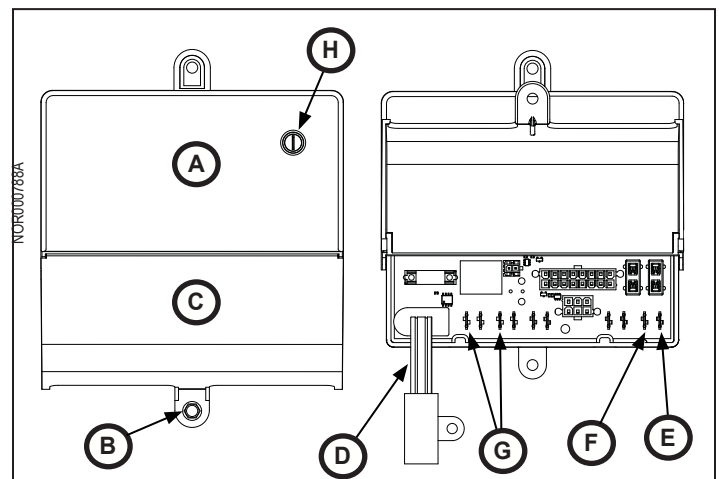

Fig. 2 - Main Control Board Assembly
- Disconnect +12VDC RV supply wire from terminal 12VDC (Fig. 2, E) of the main control board assembly.
- Disconnect 12VDC ground wire from terminal GND (Fig. 2, F) of the main control board assembly.
8. Carefully disconnect the spark electrode wire (Fig. 2, H) from the main control board assembly.
9. Disconnect the AC heater wires from terminals AC\_HT\_LO and AC\_HT\_HI (Fig. 2, G) of the main control board assembly.
5. Remove cover screw (1x) (Fig. 2, B) from main control board assembly (Fig. 2, A) and flip up cover (Fig. 2, C). Set screw aside.
6. Unplug 120 VAC power cord (Fig. 2, D) from main control board assembly.